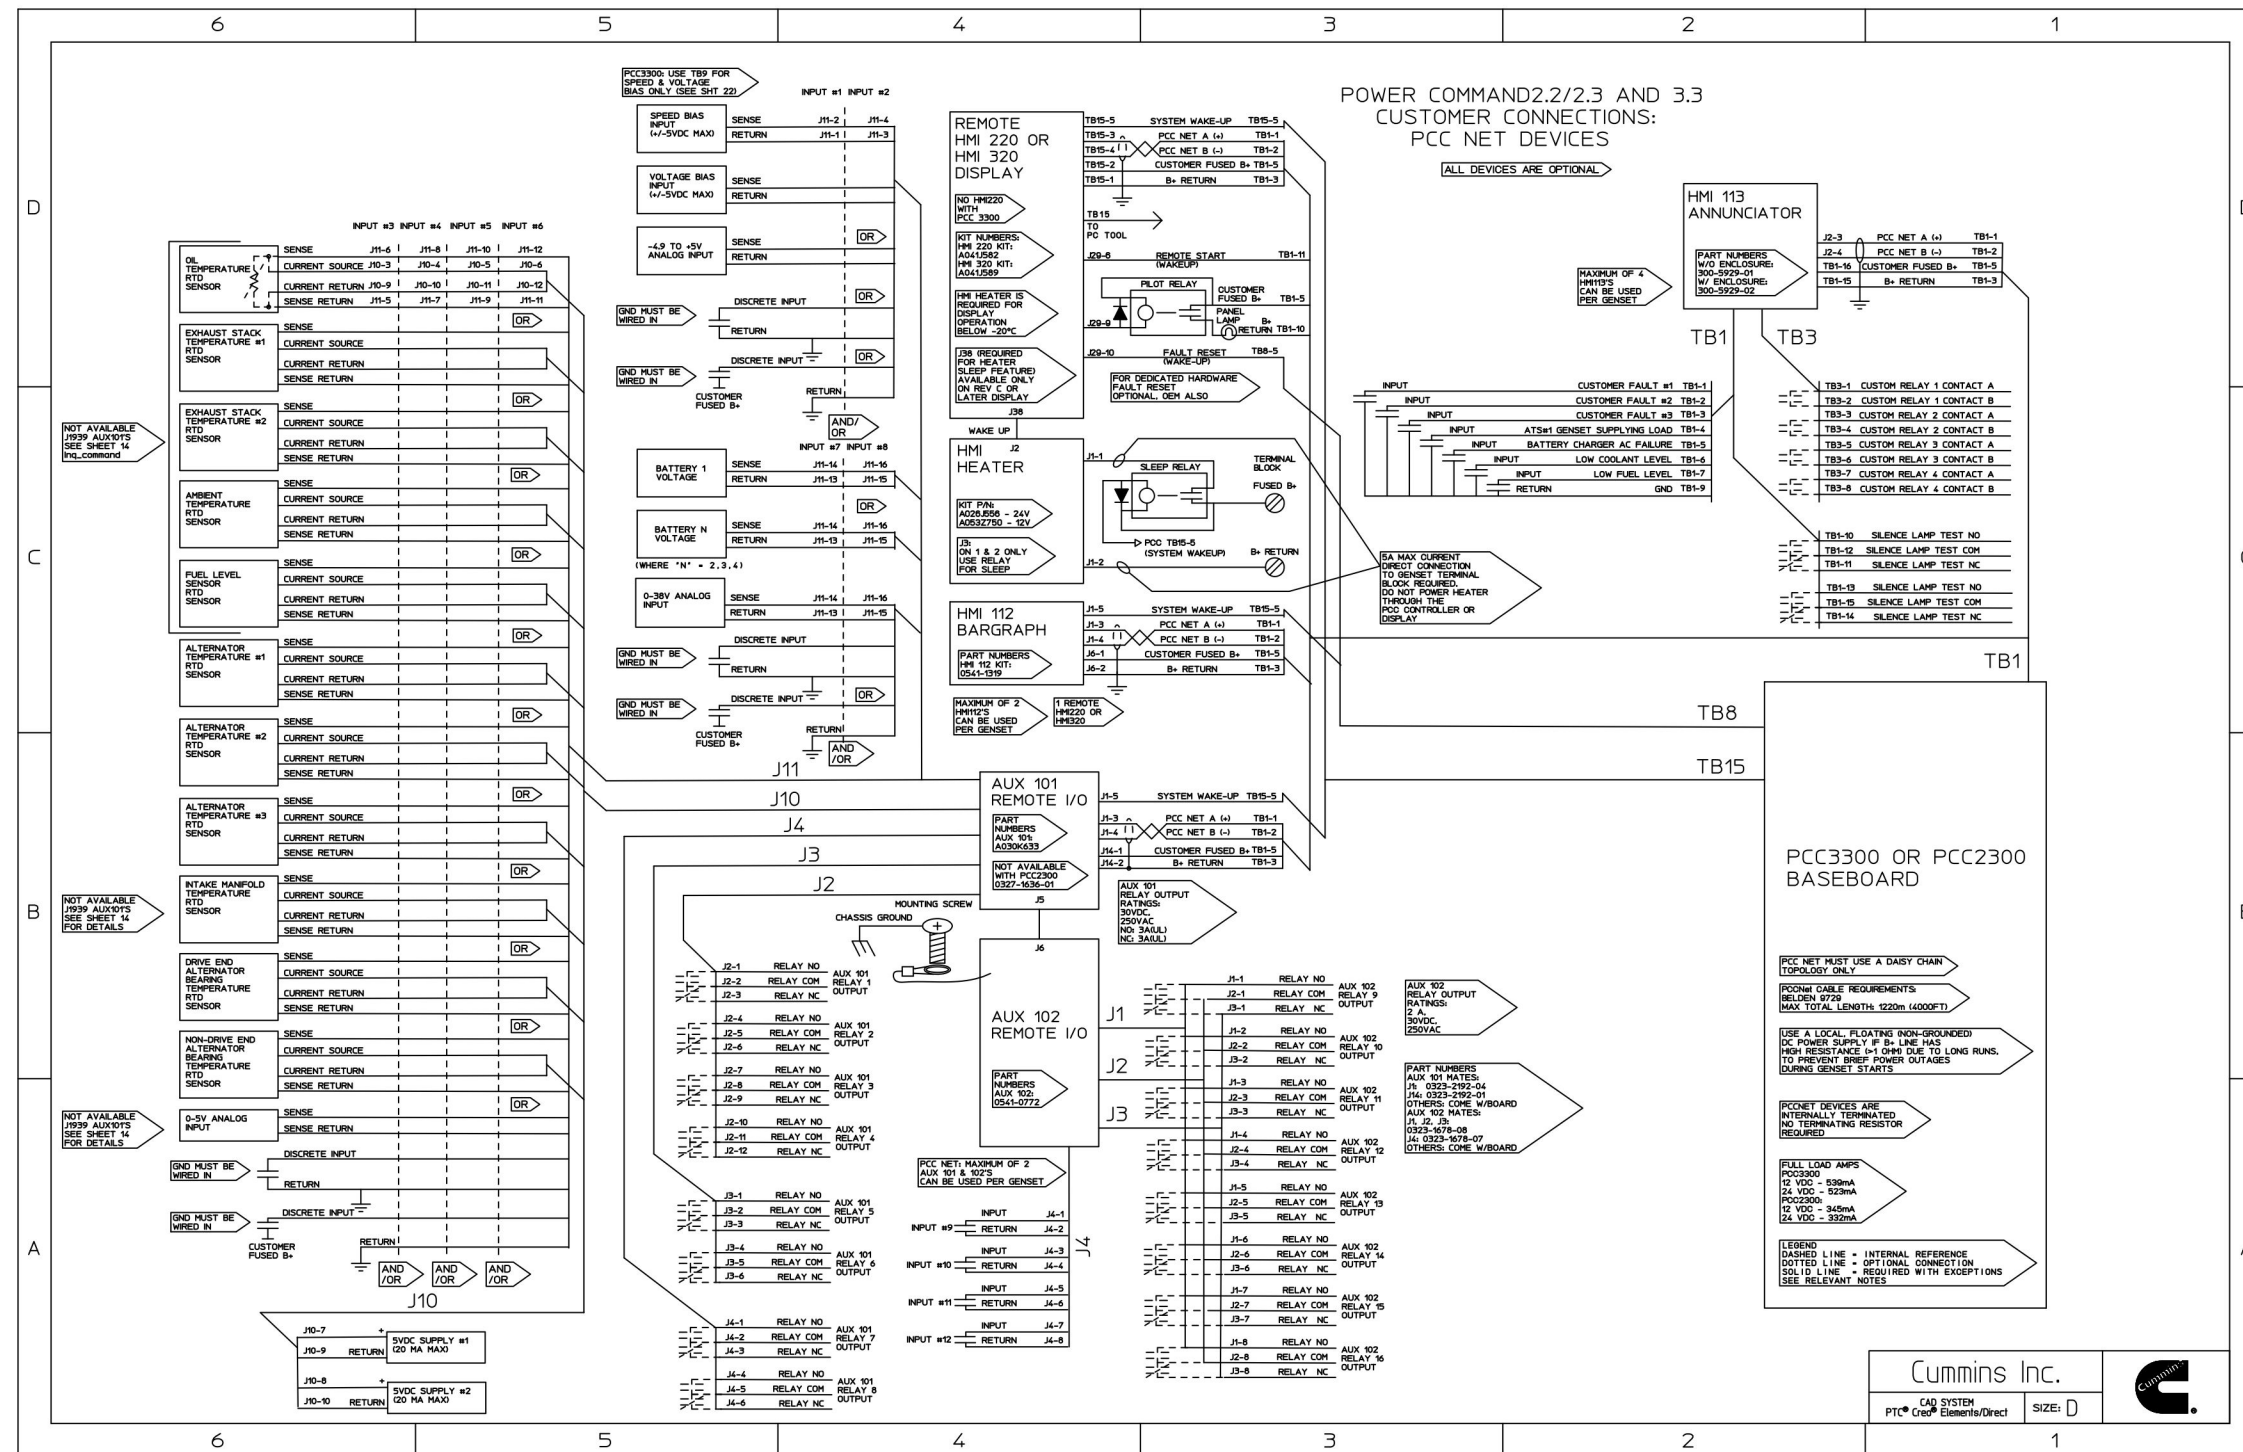

FIGURE 101. CONTROL CUSTOMER CONNECTIONS - PCC NET DEVICES
- Figure 101. Control Customer Connections - PCC Net Devices 405